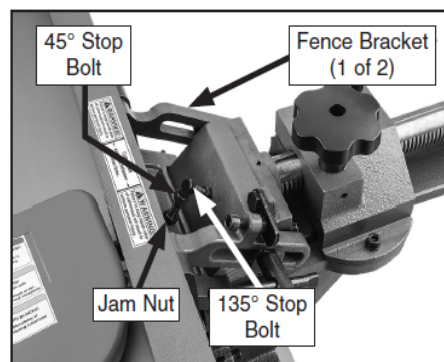

Figure 18
2. Loosen the jam nut shown in Figure 18
3. Adjust the 45 degree stop bolt until it makes contact with 135 degree stop bolt(Figure 18)